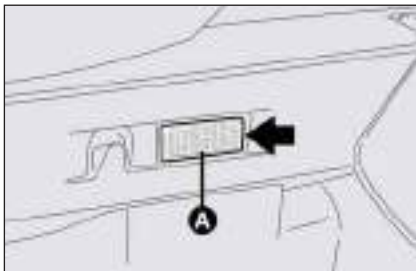

fig. 41
- remove the light unit **A-fig. 41** levering in the point shown by the arrow.
- refit the light unit **A-fig. 41** inserting it in its correct position firstly on one end and then on the other until it clicks into place.